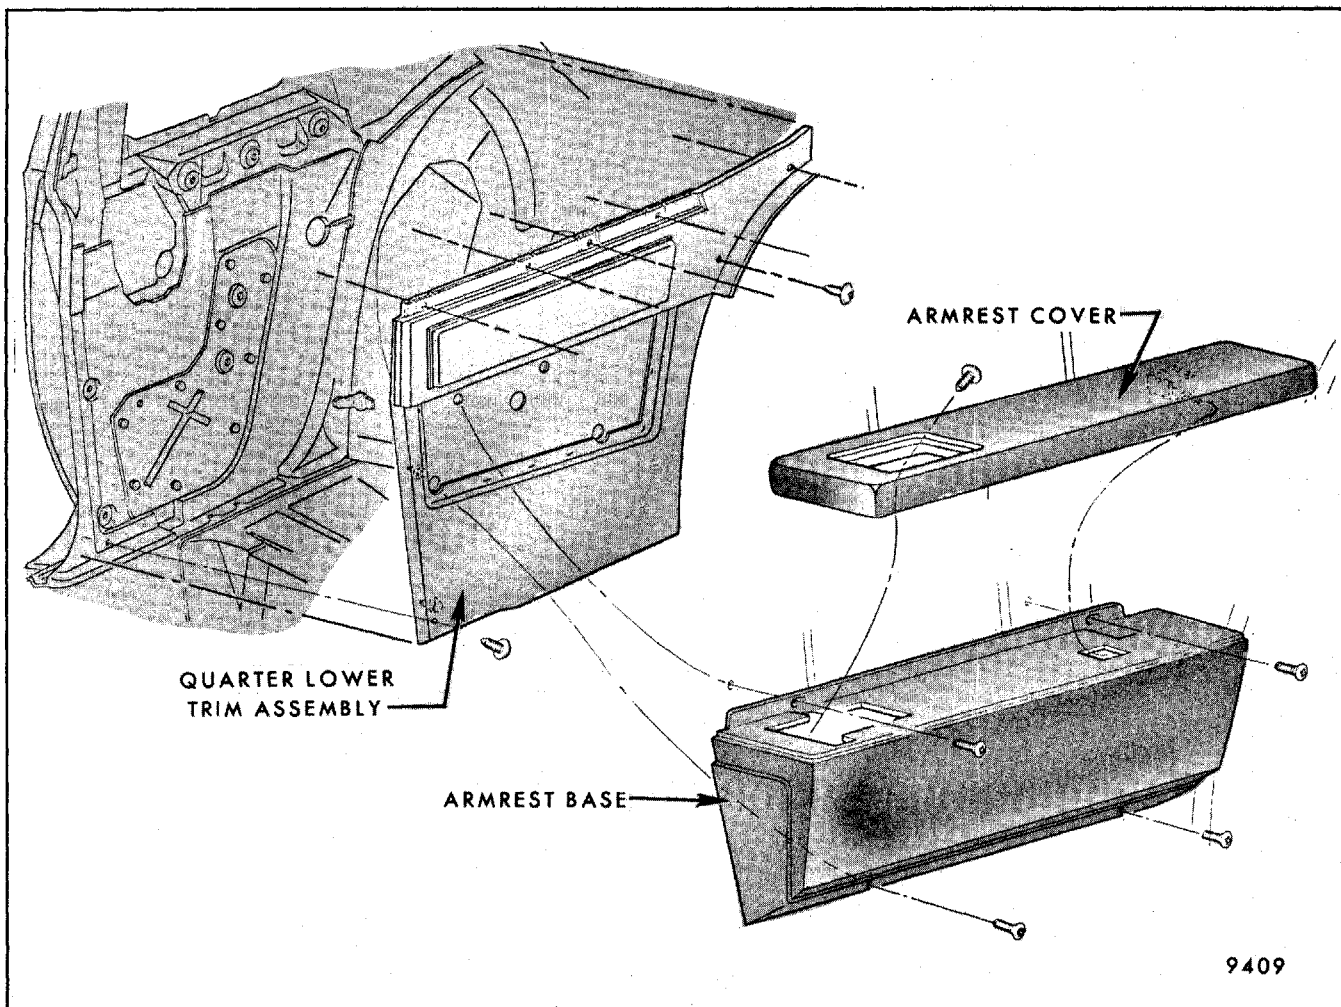
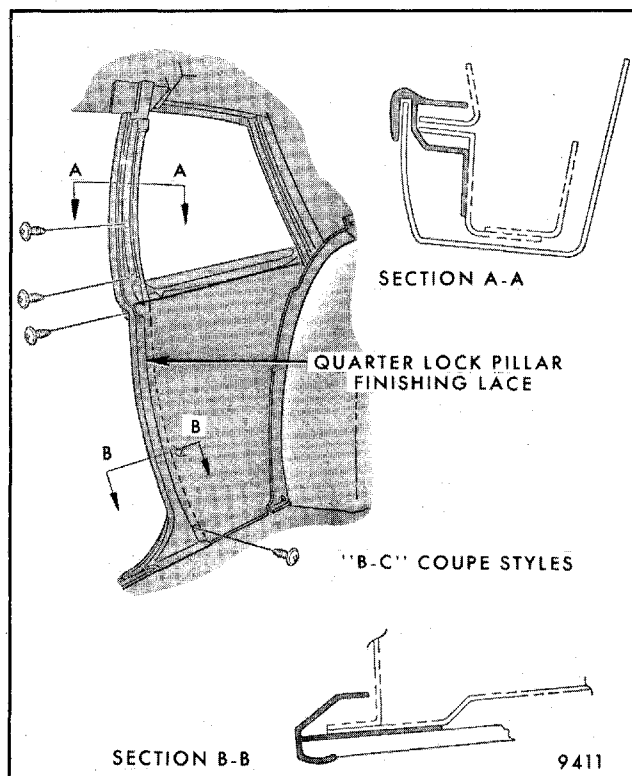

Fig. 6-2 - Quarter Armrest Attachment - "B" Styles (less 4BZ37)
Fig. 6-9 - Body Lock Pillar Finishing Lace - "B,C" Styles Shown, "A" Styles Similar
1. On "B" styles (less 4BZ37), remove screw under armrest ash tray securing pad to armrest to gain access to two upper attaching screws (Fig. 6-2).
3. On "B,C" styles, remove quarter upper trim panel to gain access to concealed beltline quarter trim attaching screws (Fig. 6-2), then remove rear quarter finishing lace (Fig. 6-9).
BT-7323 or equivalent. Detach quarter trim by lifting assembly off beltline (Figs. 6-2 and 6-3) then remove.
3. Remove finishing lace attaching screws (Fig. 6-9), pull lace forward and remove.